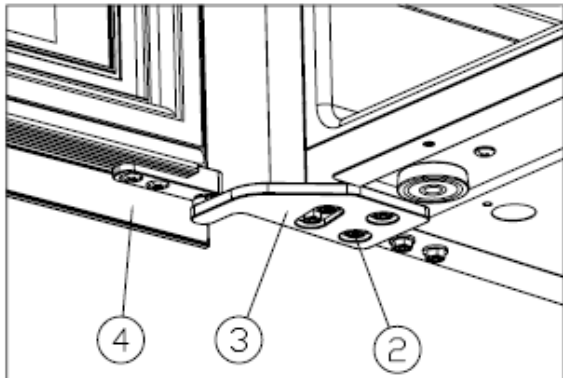

Figure 5
✧ Install the right upper hinge ③,and screw tight theM5\*16 screws②.[Figure 5]